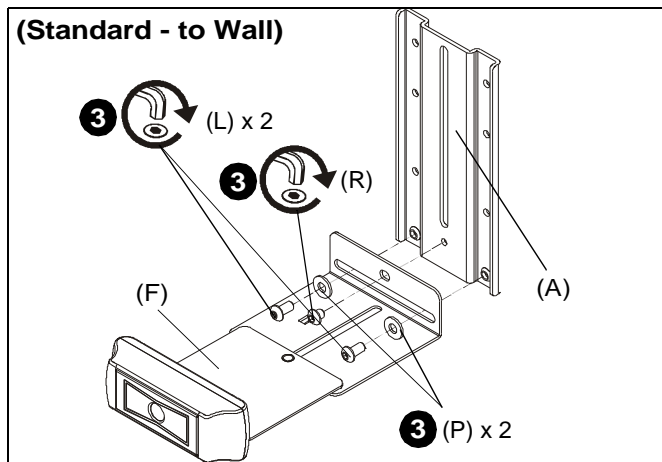

Figure 3
3. **(Standard to wall)** Use two 1/4-20 x 1/2" button head cap screws (L), two large washers (P) and one 1/4-20 x 1/4" button head cap screw (R) to secure camera mount (F) to upright bracket (A). (See Figure 3)